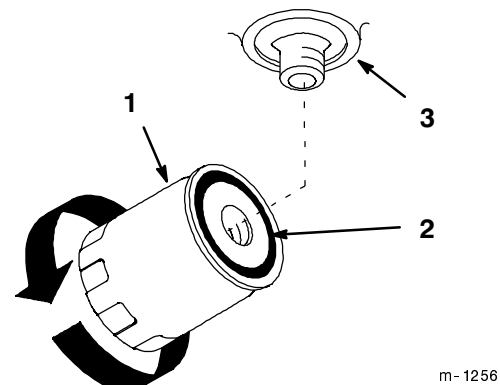

Figure 79
4. Apply a thin coat hydro fluid to the rubber gasket on the replacement filter (Fig. 79).
7. When fluid overflows filter turn the oil filter clockwise until the rubber gasket contacts the filter adapter, then tighten the filter an additional 1/2 turn (Fig. 79).